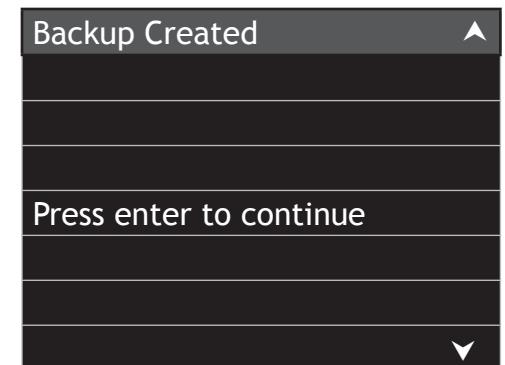

Figure 91
7. Using the ▲ (Up) Push-button highlight “Yes” and press the SELECT Push-button. Refer to figure 91. Then press the SELECT Push-button.